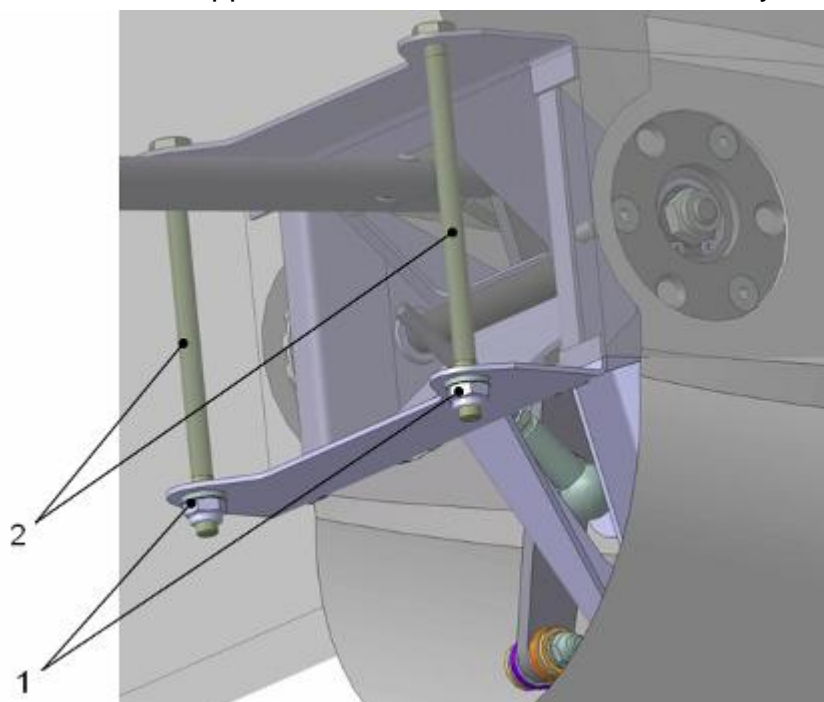

Fig. 4-2
2. Unscrew nuts (1) with two wrench 10 (mm), remove bolts (2) and detach Stabilator, Fig. 4-2.